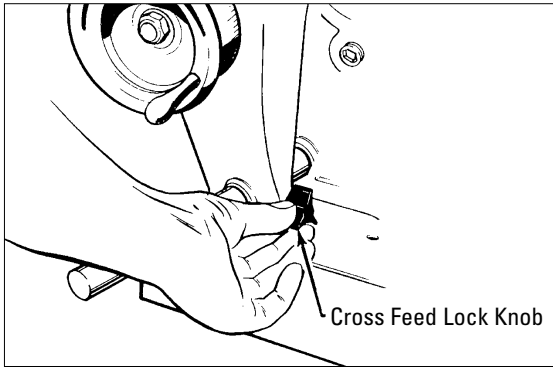

Figure 15 - Lock cross feed
**19.** With the lathe running, set the depth-of-cut dial to the depth desired and lock the cross feed by tightening the lock knob (figure 15).